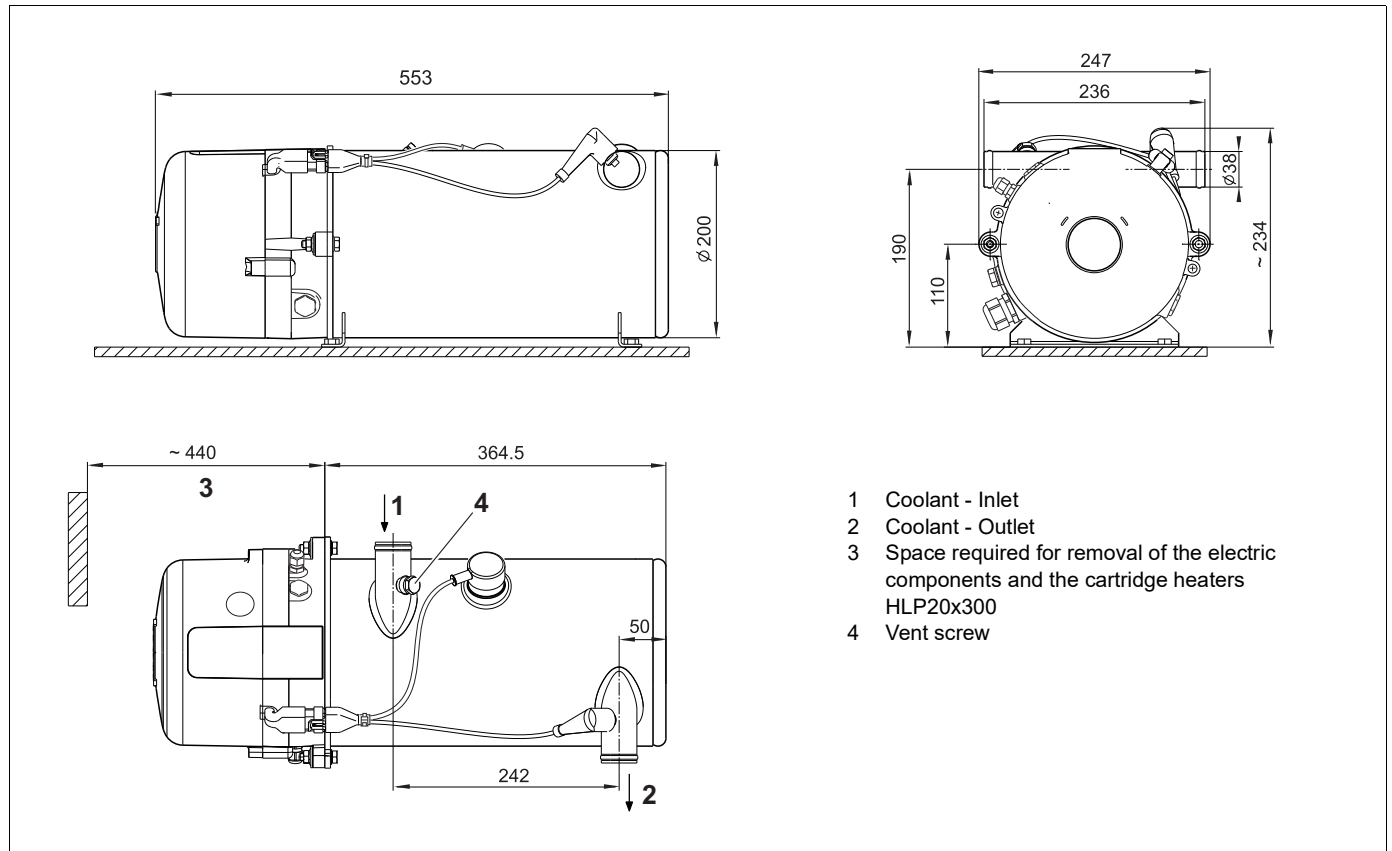

Figure 11: Dimensions of the heating appliance Thermo AC
The dimensions of the heating appliance, the permitted installation locations, and the hole pattern for the fastening can be found in figures 11 and 12.
The heating appliance is connected to the vehicle's cooling system according to figure 11. The volume of coolant fluid present in the circuit must be at least 25 litres. The water in the heating circuit of the heating appliance must contain at least 30 to 60% of a branded antifreeze agent. An up-to-date list of Spheros recommended anti-freeze agents can be found on the Spheros website.
When installing the electric heater the direction of the flow of the cooling water in the circuit is to be considered (see figure 11).
For that the additional venting option via the vent screw item 4, figure 11 is to be used after the system has been filled and the pump has been switched on.